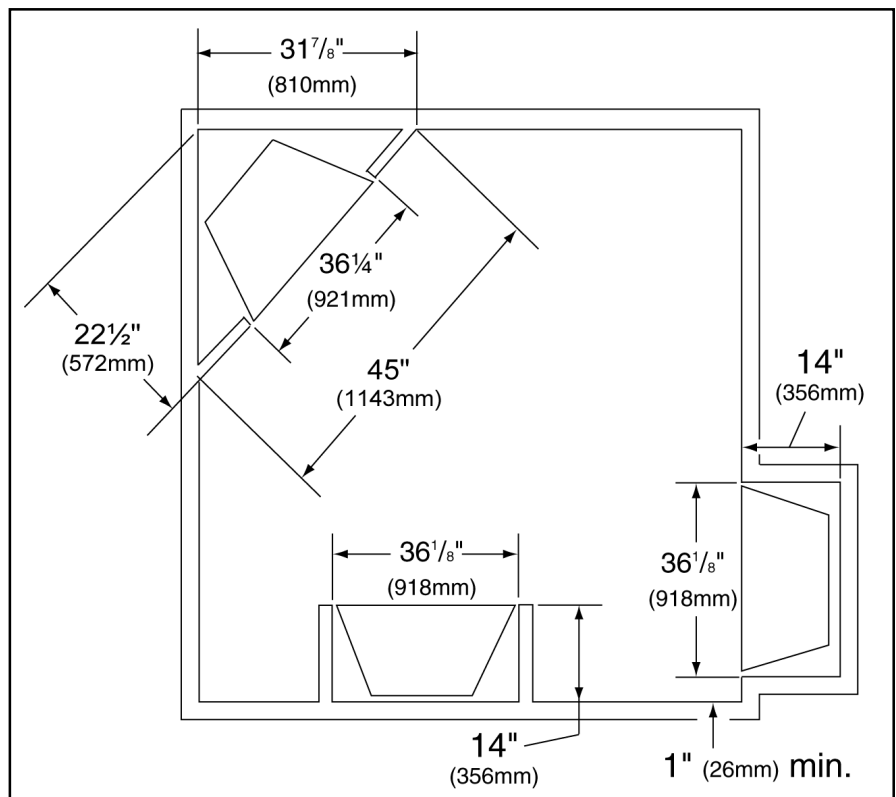

Figure 1 - Appliance Locations
Figure 1 illustrates a variety of ways the appliance may be located in a room. The QV32E and QVE32EV may be installed directly on the floor or raised on a hearth.
Figure 1 shows all clearances that must be maintained around the appliance.
- b. If using a listed wall cabinet or corner cabinet, refer to the installation instructions supplied with the kit. For custom cabinets, frame and construct with the opening and depth dimensions listed in Figures 1 and 2.
- a. Follow recommended framing dimensions in Figures 1 and 2.